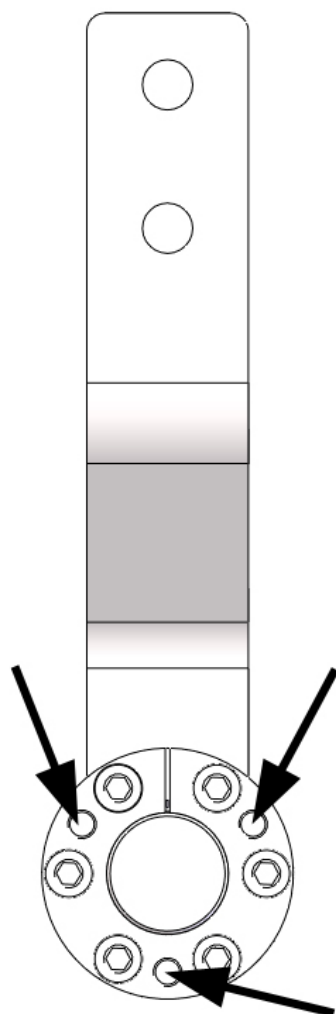

Figure 66. Threaded holes
4. Remove at least two screws and insert them into the threaded holes (figure 66).